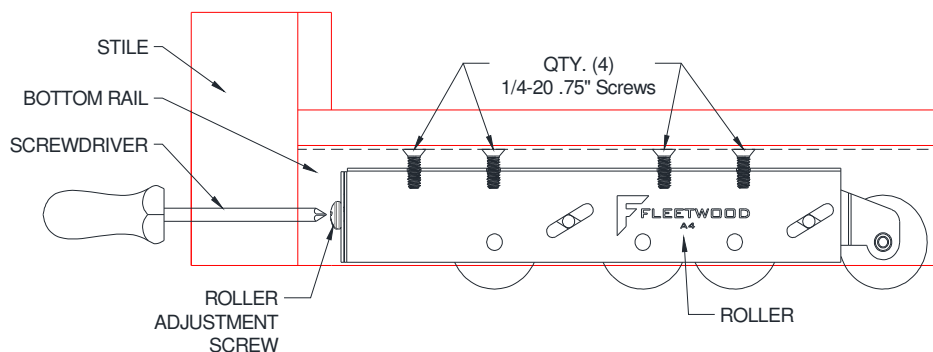

Figure 10:
- Adjust the rollers to the full up (into the extrusion) position using the adjustment screw (Figure 10). Before adjusting rollers, lift panels to relieve weight. Add plugs to panel when finished adjusting rollers.
2. Verify that the weather stripping in the frame head is located so that it contacts the width of the “O” panel. To properly adjust rollers, see Figure 10.